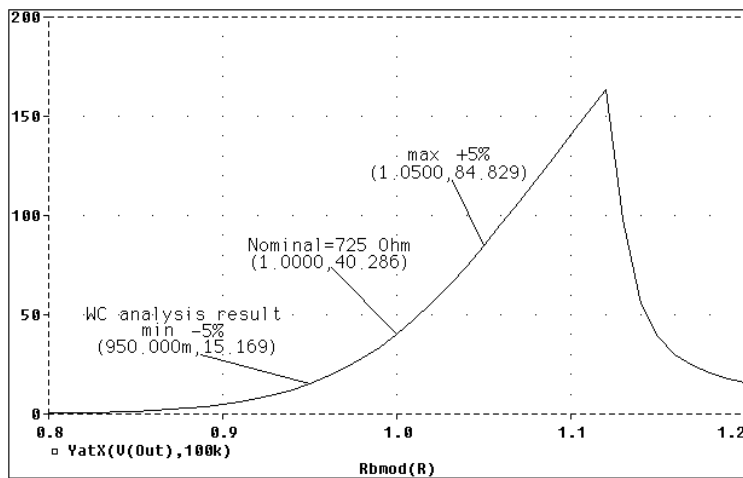
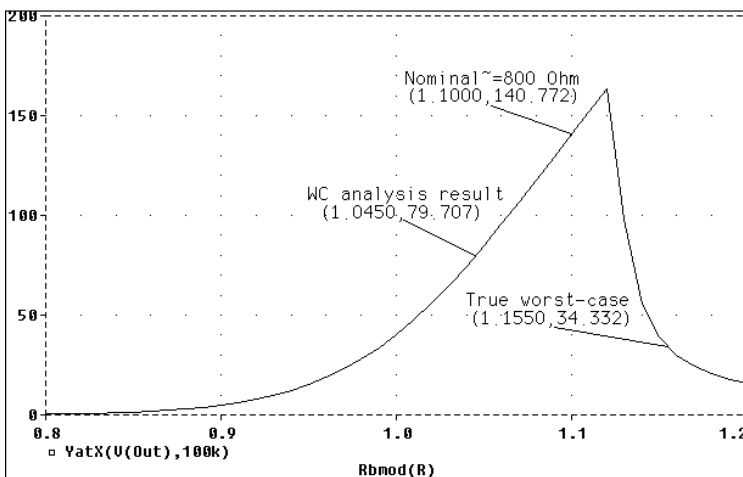

Figure 88 Correct worst-case results.
Figure 89 Incorrect worst-case results.
output is not monotonic with a variable parameter (see Figure 88 and Figure 89)
For demonstration, the parametric analysis is run first, generating the curve shown in Figure 88 and Figure 89. This curve, derived using the YatX goal function shown in Figure 87 illustrates the non-monotonic dependence of gain on *Rb2*.
The first .MODEL statement leaves the nominal value of *Rb2* at 720 ohms. The sensitivity analysis increments R by a small amount and checks its effect on Vm([OUT]). This slight increase in R causes an increase in the base bias voltage of the BJT, and increases the amplifier's gain, Vm([OUT]). The worst-case analysis correctly sets R to its minimum value for the lowest possible Vm([OUT]) (see Figure 88).
**Note** *The YatX goal function is used on the simulation results for the parametric sweep (.STEP) defined in Figure 86. The resulting curves are shown in Figure 88 and Figure 89.*
The second .MODEL statement scales the nominal value of  $Rb2$  by 1.1 to approximately 800 ohms. The gain still increases with a small increase in  $R$ , but a larger increase in  $R$  increases the base voltage so much that it drives the BJT into saturation and nearly eliminates the gain. The worst-case analysis is fooled by the sensitivity analysis into assuming that  $Rb2$  must be minimized to degrade the gain, but maximizing  $Rb2$  is much worse (see Figure 89). Note that even an optimizer, which checks the local gradients to determine how the parameters should be varied, is fooled by this circuit.